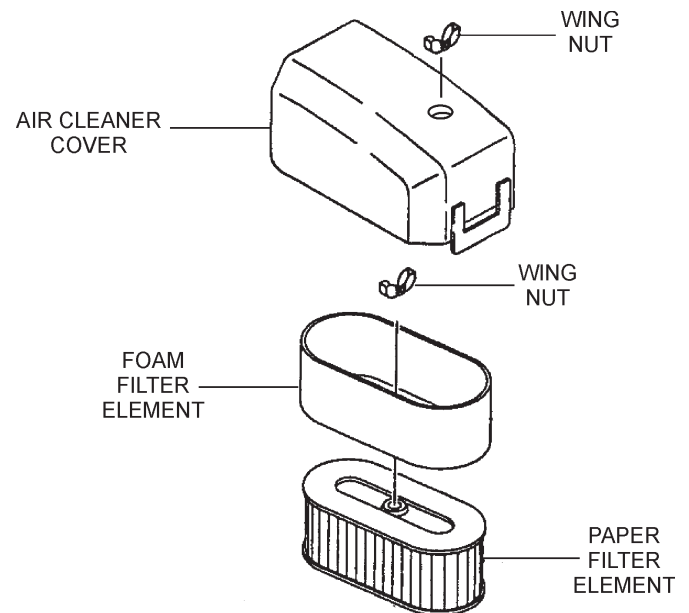

Figure 21. Engine Air Cleaner
- Remove the air cleaner cover and foam filter element as shown in Figure 21.
- Tap the paper filter element (Figure 21) several times on a hard surface to remove dirt, or blow compressed air [not exceeding 30 psi (207 kPa, 2.1 kgf/cm2)] through the filter element from the air cleaner case side. **NEVER** brush off dirt. Brushing will force dirt into the fibers. Replace the paper filter element if it is excessively dirty.